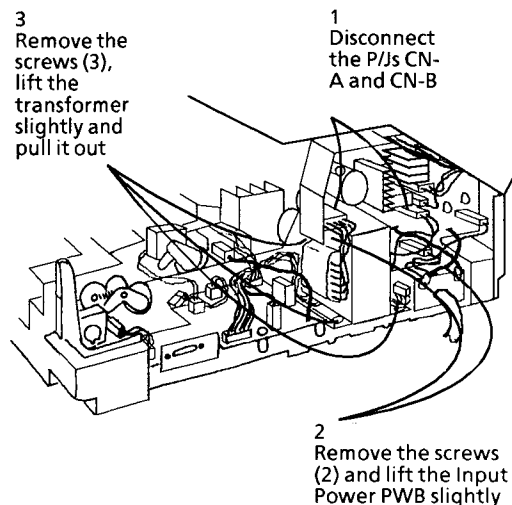

Figure 1. Removing the Main Transformer
3. Remove the Main Transformer (Figure 1).